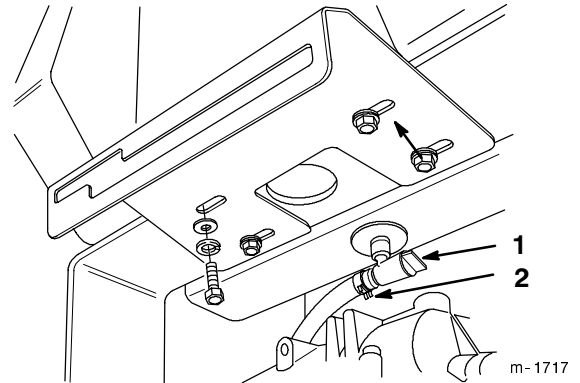

Figure 31
3. Squeeze the ends of the hose clamp together and slide it up the fuel line away from valve (Fig. 31).
4. Pull the fuel line off the valve (Fig. 31). Open fuel shut-off valve and allow gasoline to drain into a gas can or drain pan.
2. Close fuel shut-off valve at fuel tank (Fig. 31).
6. Open fuel shut-off valve at fuel tank (Fig. 31).